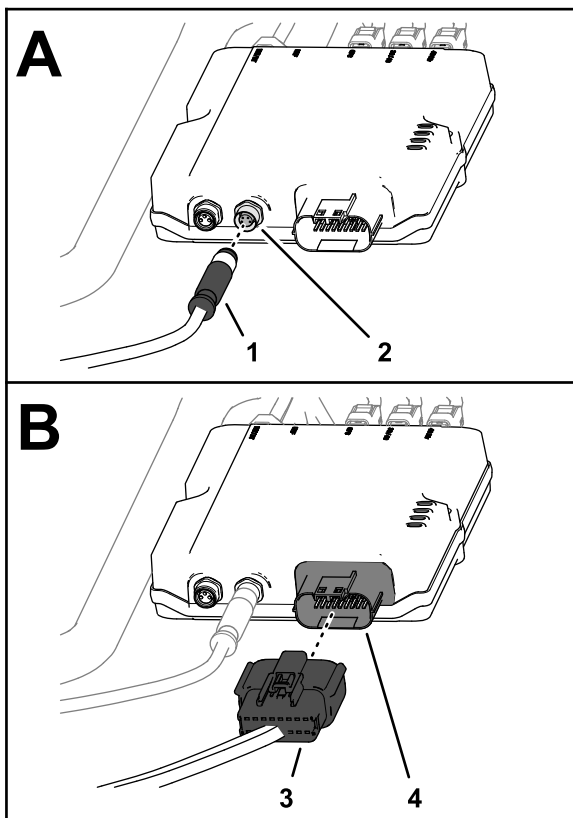

Figure 85
1. Plug the 4-pin connector of the modem data harness labeled ETHERNET CL55 into the 4-socket connector (unmarked) of the CL-55 modem, and tighten the knurled nut of the 4-pin connector (Figure 85).
2. Plug the 18-pin connector of the modem power harness labeled CL55 into the 18-pin connector of the CL-55 modem (Figure 85).